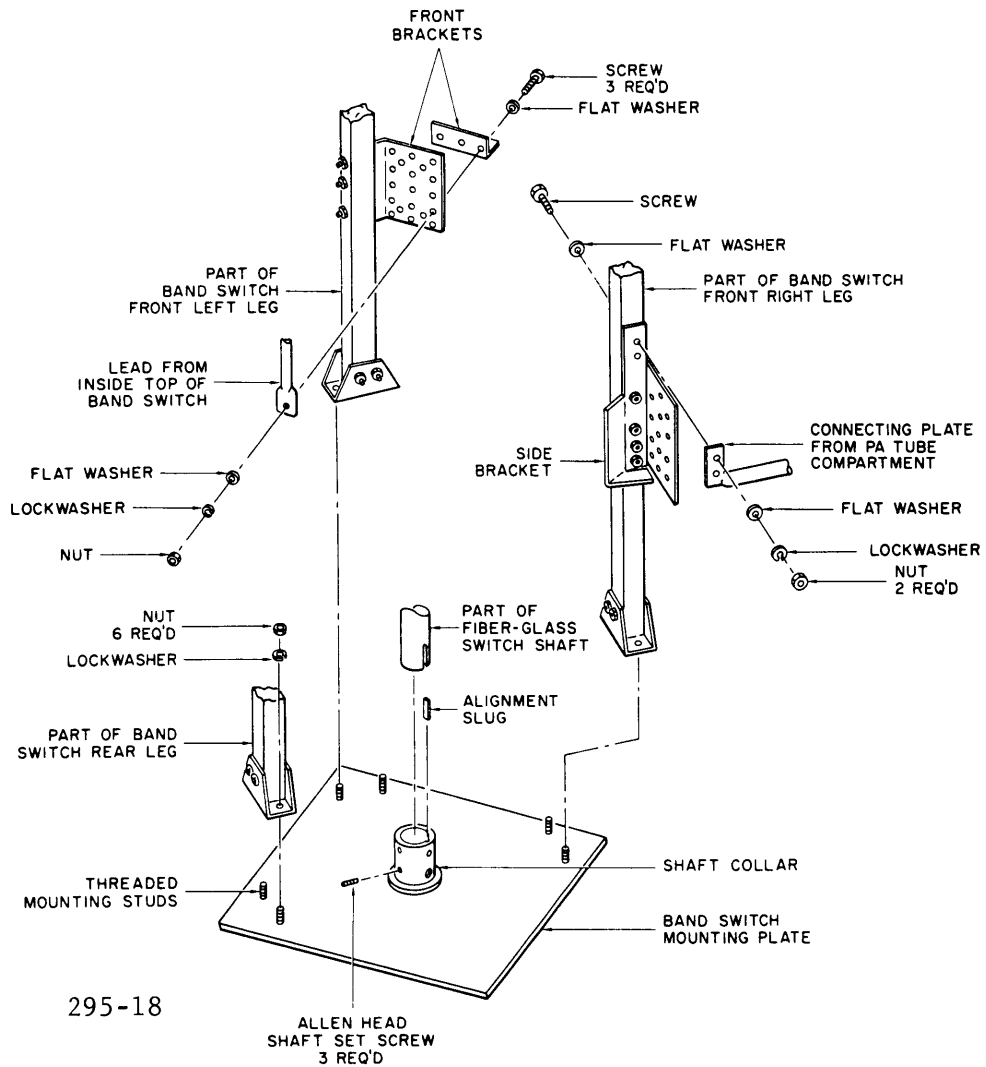

Figure 4-14. Third Frame Band Switch, Installation Diagram.
- b. Back out three allen-head shaft set screws, figure 4-14. in shaft on band switch mounting plate in rear of fourth frame.
c. Temporarily remove three bolts from front bracket, figure 4-14, which is attached to front left leg of band switch.
d. Temporarily remove two bolts, figure 4-14, from top of side bracket on front right leg of band switch.
f. Using hardware removed in step c, secure band switch to mounting plate (see figure 4-14).
i. Replace three bolts that attach front brackets, figure 4-14; include lead from inside top of band switch in hardware sequence.
j. Connect coil L7316 (taped to top of band switch during shipment of transmitter) to porcelain insulator on top of band-switch and to flange-clamp (electrically connected to capacitor C7325, see figures 4-14 and 4-15).